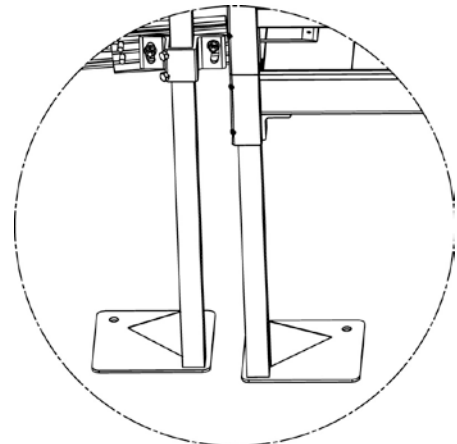

FIG. 43
- 9.2 Ramp and platform legs can be secured to the ground using stakes or concrete anchors and the holes provided in the feet, if needed (FIG. 43). **Note:** Hardware not included.